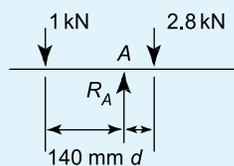

Figure 5.7
- Determine distance  $d$  and the force acting at the support  $A$  for the force system shown in Figure 5.7, when the system is in equilibrium.
- If the 1 kN force shown in Figure 5.7 is replaced by a force  $F$  at a distance of 250 mm to the left of  $R_A$ , find the value of  $F$  for the system to be in equilibrium. [560 N]